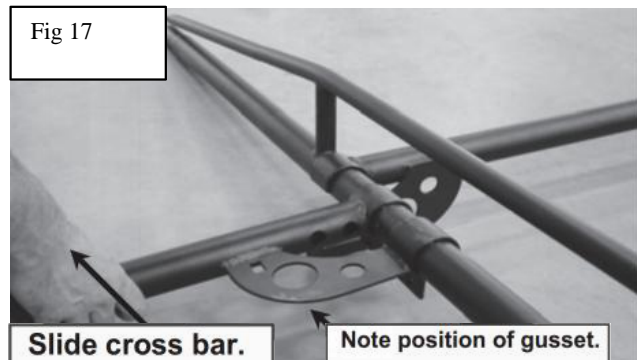

Fig 17
2. Slide the front upright on behind the front cross bar. (Fig 17)